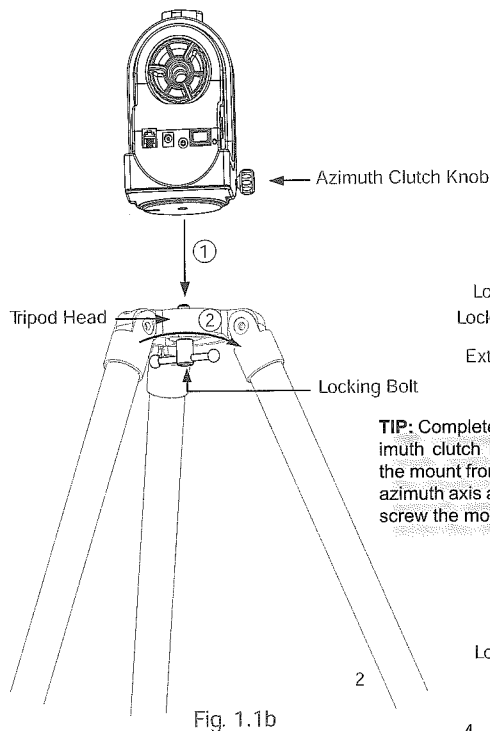

Fig. 1.1b
3. If using a short tube telescope, which does not hit the tripod legs when it points to zenith, with the AZGTi mount, the mount can be installed onto the tripod directly. Align the 3/8" socket at the base of the mount with the locking bolt on the tripod head. Lock the mount on the tripod by tightening the bolt (Fig. 1.1b).